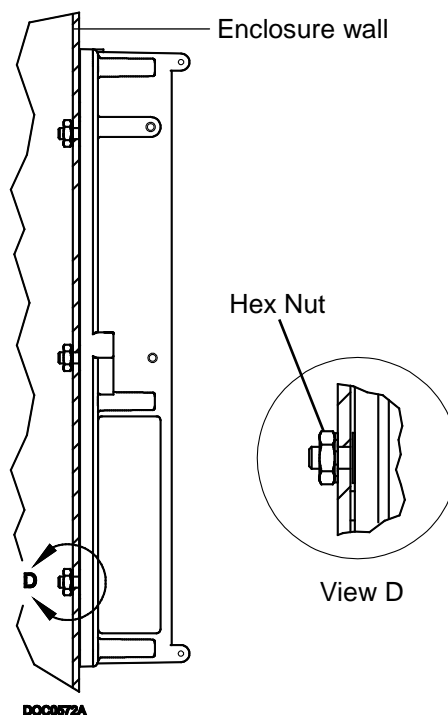

Figure 2-3. Side View of Installed Keypad Display
9. Attach the keypad display to enclosure or panel with supplied 8-32 hex nuts (refer to *Figure 2-3*).